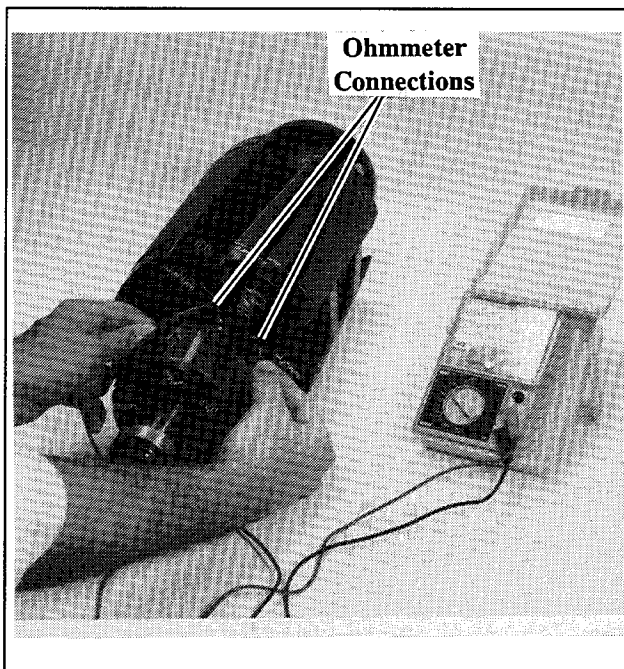

Figure 8-16. Exciter Armature Ohmmeter Test
2. With an ohmmeter on the R x 1000 scale, check resistance across exciter armature leads. See Figure 8-16. The armature resistance should be approximately 0.71 ohms (continu-